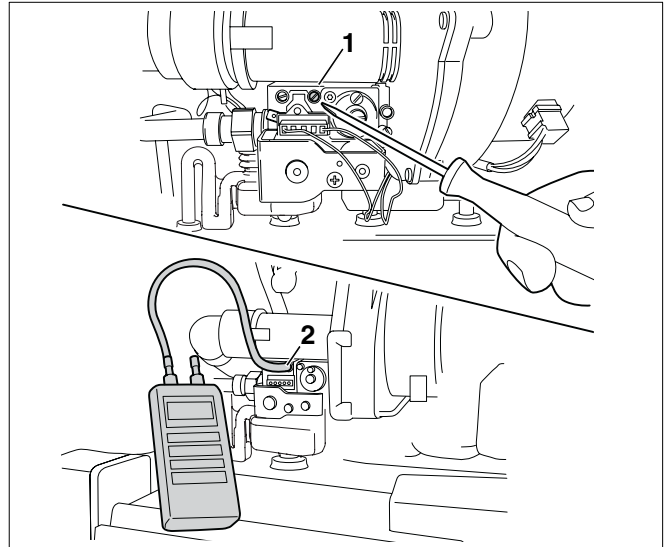

Fig. 30 Checking the gas/air ratio
- Loosen the screw plug on the measuring nipple for the burner pressure by two rotations (fig. 30, pos. 1).
- Use a hose to connect the plus terminal of the pressure gauge to the burner pressure measuring nipple (fig. 30, pos. 2).